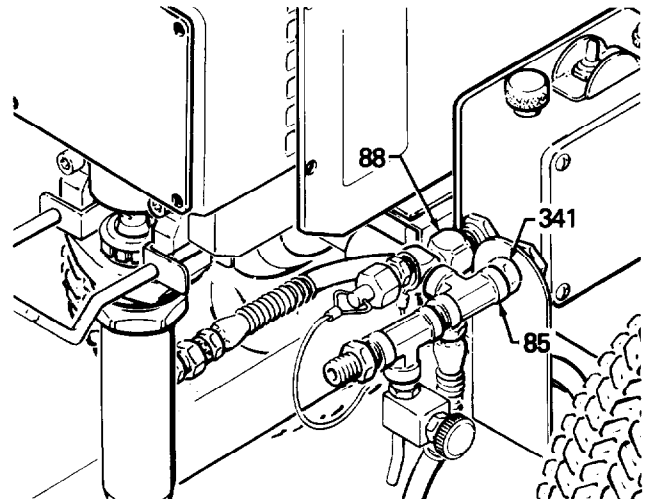

Fig 18
Calibration Setup (See Fig 18 and 19)
3. Remove the elbow (88). Holding the nipple (341) with a wrench to prevent it from turning, rotate the tee (85) up and install the test gauge (X) in the tee (85). See Fig 18.
7. With the pressure control knob at the *minimum* setting, turn the sprayer switch ON. See Fig 18.